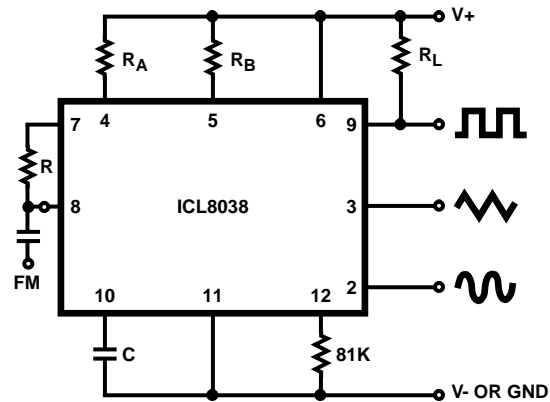

FIGURE 5A. CONNECTIONS FOR FREQUENCY MODULATION
3. $V_{SUPPLY} = 20V$; R_A and $R_B = 10k\Omega$, $f \approx 10kHz$ nominal; can be extended 1000 to 1. See Figures 5A and 5B.
The frequency of the waveform generator is a direct function of the DC voltage at Terminal 8 (measured from V+). By altering this voltage, frequency modulation is performed. For small deviations (e.g. ±10%) the modulating signal can be applied directly to pin 8, merely providing DC decoupling with a capacitor as shown in Figure 5A. An external resistor between pins 7 and 8 is not necessary, but it can be used to increase input impedance from about 8kΩ (pins 7 and 8 connected together), to about (R + 8kΩ).